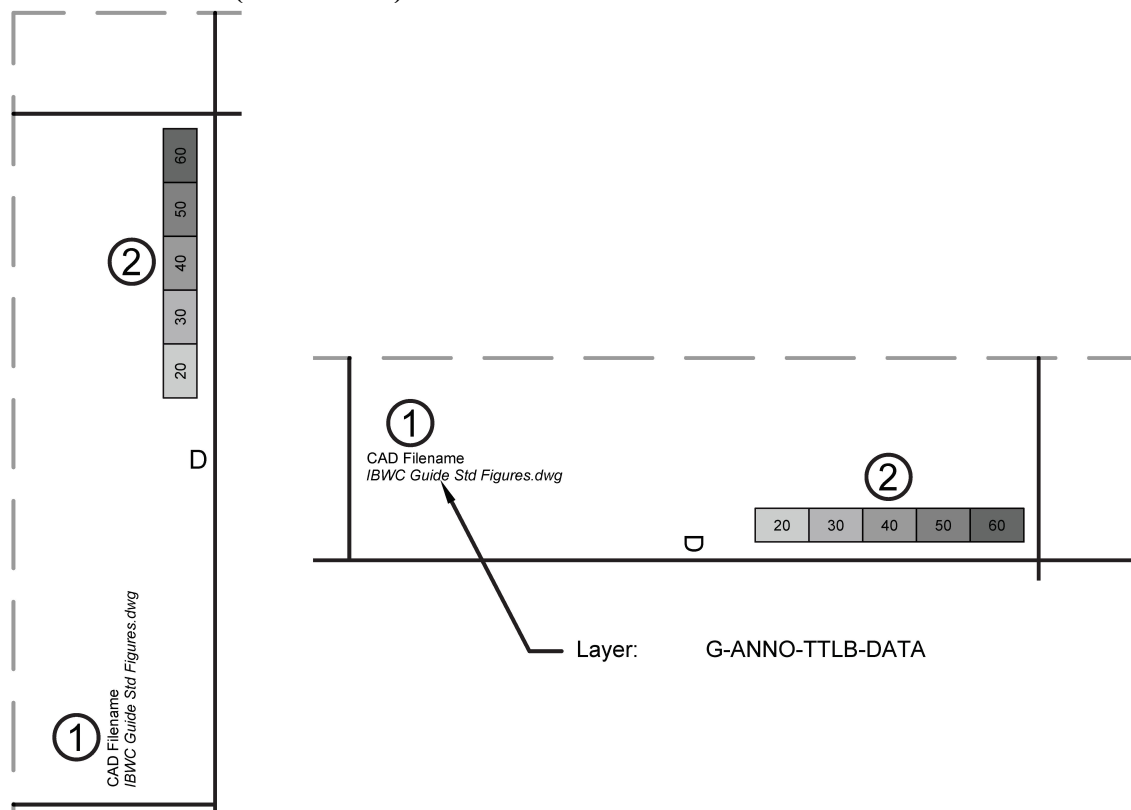

Figure 30-USIBWC Border: AutoCAD Filename
4.8. FILENAME (FIGURE 30)
4.8.A. Figure 30, Item 1 - AutoCAD Filename
4.8.B. Figure 30, Item 2 - Gradation Scales